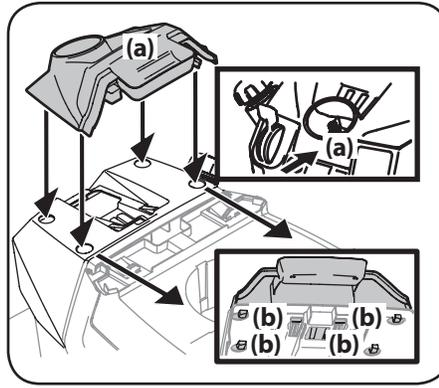

Figure 2-8
1. With the wheels of the tractor pointing straight forward, align the steering wheel (a) by using the center-line (b) on the front of the steering wheel (a) pointing straight ahead and the flat section (c) of the steering wheel (a) facing toward the seat, place the steering wheel (a) over the steering shaft (d). See Figure 2-8.